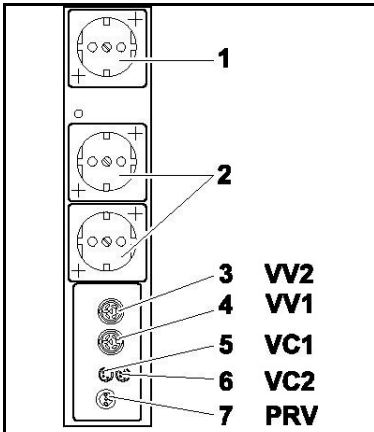

Fig. 10: Connections of the electrical supply unit
1. Connect signal socket of the vacuum controller with the electrical supply unit socket marked VC 1 (fig. 10/5) using the connection cable.
2. When using two vacuum controllers, connect the second vacuum controller's signal socket to the electrical supply unit's VC2 connection (6).
3. Insert the vacuum controller power cord plug into the designated electrical supply unit socket (2).
4. When using two vacuum controllers, insert the vacuum valves' plugs into the electrical supply unit's VV1 (4) und VV2 (3) connections.
5. Insert the pump vent valve plug into the electrical supply unit socket marked PRV (7).
6. Insert the vacuum pump power cord plug into the designated electrical supply unit socket (1).
2. Insert the coolant valve's plug into the vacuum controller's VV1 socket (see fig. 10/4).